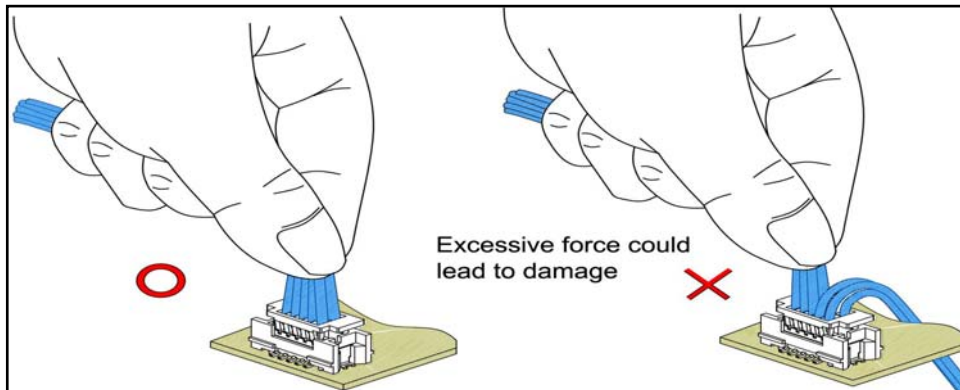

figure 4.1
- 4.1 Please hold all wires equally to prevent excessive force on certain wires. excessive force could lead to damage. (see figure 4.1)